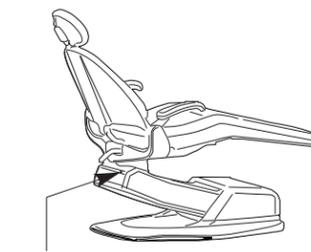

Figure 4. Program button
2. Push program button (M) beep beep indicates programming mode activated. Immediately go to step 3 (Figure 4).